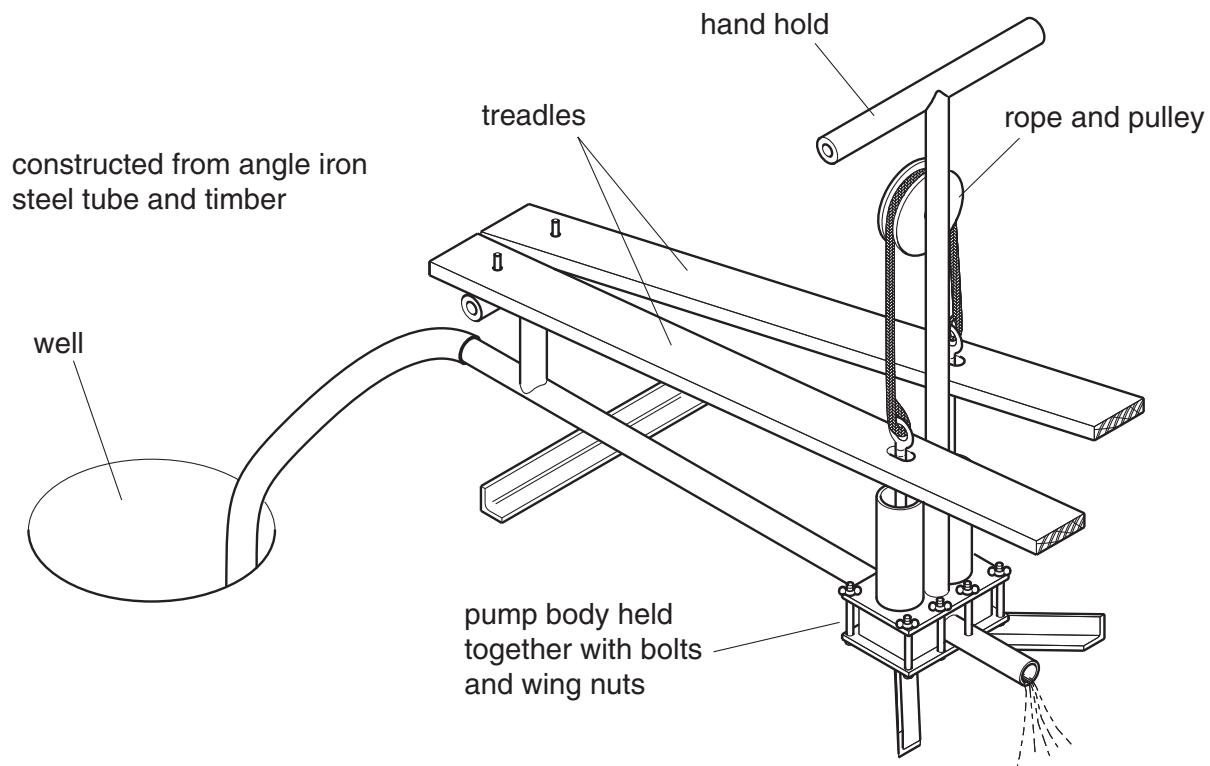

Fig. 10
- (c*) The treadle mechanism shown in Fig. 10 is used in developing countries to power water pumps. The pump has two cylinders; each treadle is attached to a piston moving in the cylinder. A rope and pulley mechanism joins the treadles.